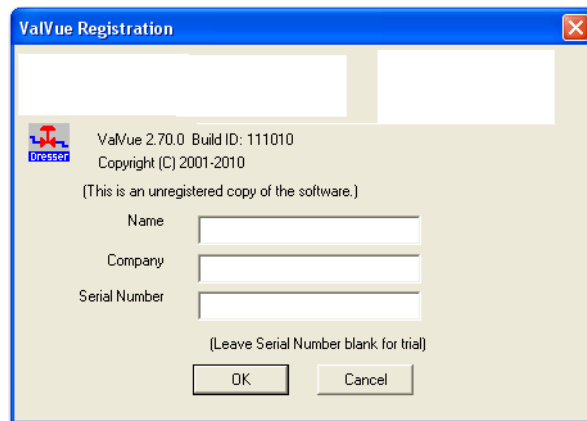

Figure 53 ValVue Registration
2. Select ValVue from the program group, and double-click to begin and Figure 53 appears.